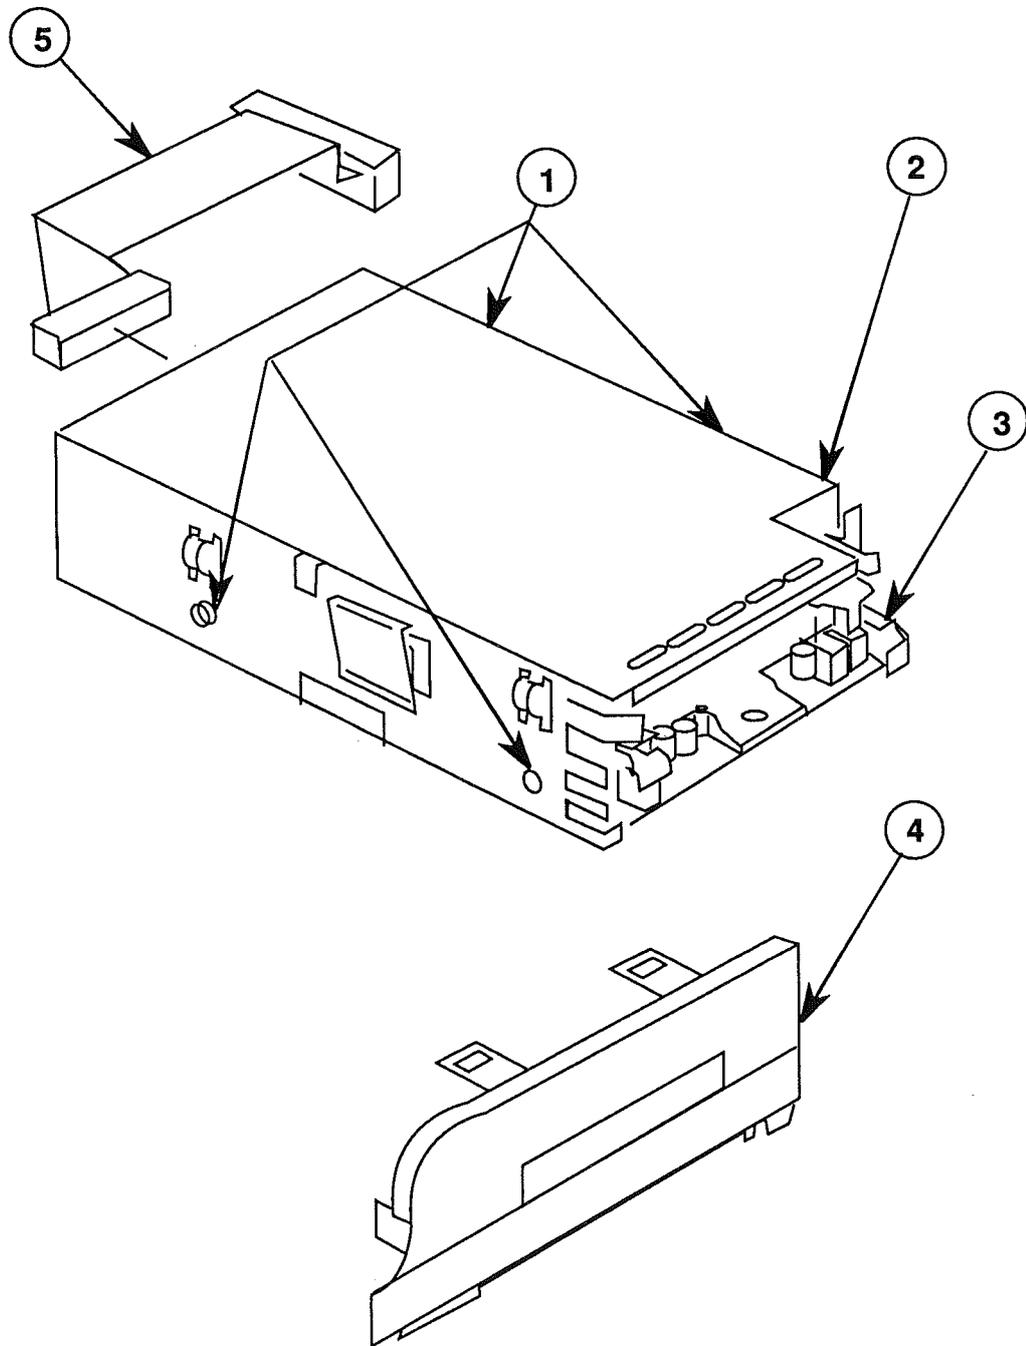

FIGURE 8
□ UPPER FDHD FLOPPY DISK DRIVE (Figure 8)